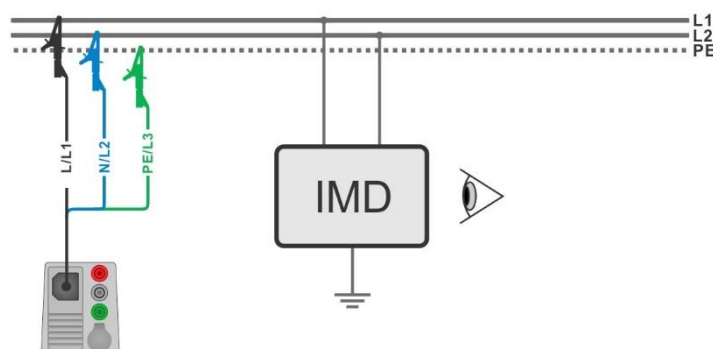

Figure 7.116: Connection with 3-wire test lead
- ▶ Connect 3-wire test lead to the object under test, see *Figure 7.116*.